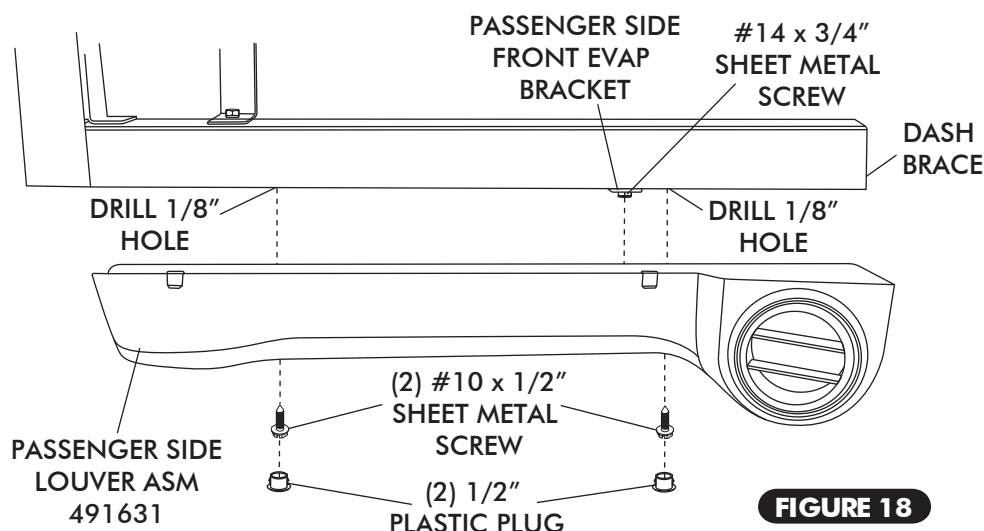

FIGURE 18
- ALIGN PASSENGER SIDE UNDER DASH LOUVER TO DASH BRACE USING PASSENGER SIDE FRONT EVAP BRACKET AND #14 x 3/4" SHEET METAL SCREW, DRILL (2) 1/8" HOLES IN DASH BRACE AND SECURE USING (2) #10 x 1/2" SHEET METAL SCREW AS SHOWN BELOW IN FIGURE 18.
- INSTALL (2) 1/2" PLASTIC PLUGS IN LOUVER ASM.